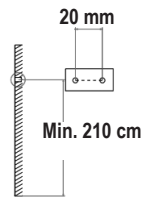

Fig. 1
2. Mark the mounting holes on the wall. (Fig. 1)